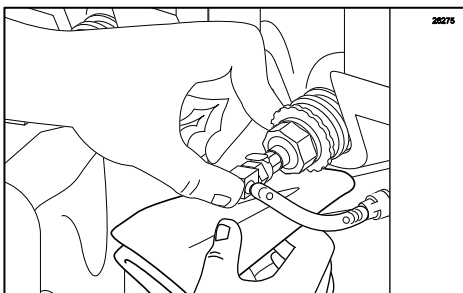

Figure 50
13. Connect the Syrup Bag Connector to the Syrup Bag Adapter. (See Figure 50.)